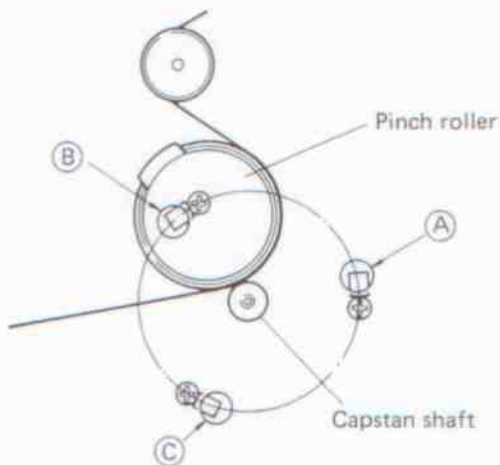

Fig. 6. Capstan Azimuth
14. If the tape does not rub properly the lower flange of the right guide pin, loosen the three screws shown in Fig. 6.
15. a. If the tape runs off the lower flange of the right guide pin, apply a shim to (A) by inserting it through the service hole that provides access to (A).